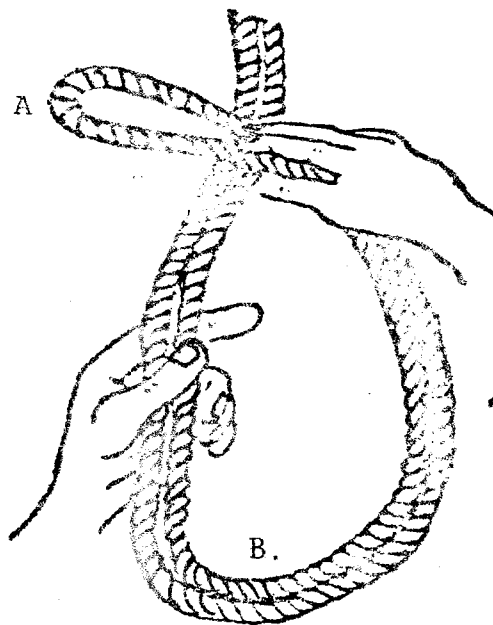

Fig. 1
Fig. 1 & 2. Lay the 6 inch bight (A) across the two ropes about 3 inches above left hand. This forms a double roped circle which will become the leg loops. Place your right thumb under the two ropes and hold securely. With the left hand maintaining its grip, the right hand will "roll" the bight (A) down, around, and up through the inside of the circle (B).